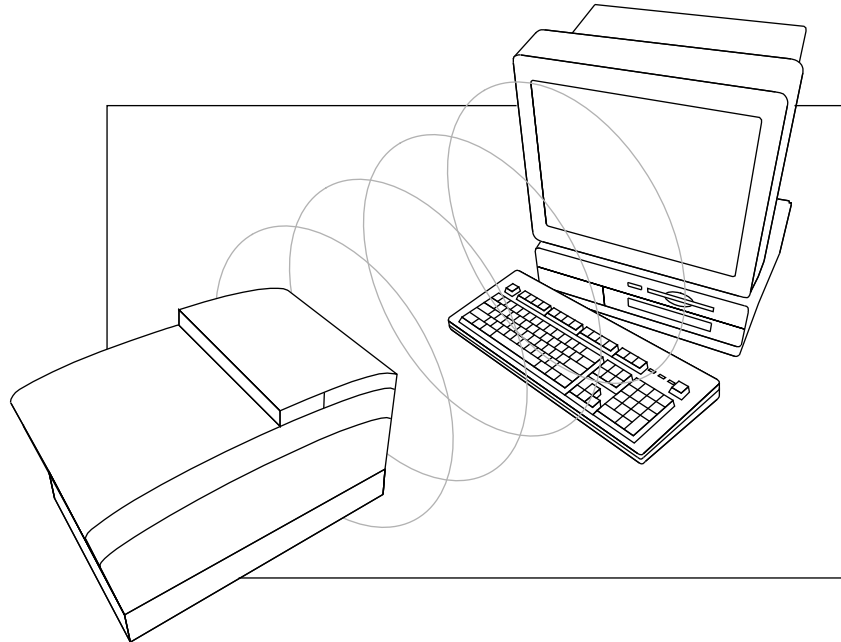

Figure 1. Electromagnetic Compatibility Scenario
An EMC problem will occur in one of two categories: emissions or susceptibility. Both emissions and susceptibility will consist of a conductive (via electrical connection) or radiated nature. For example, Figure 1 shows an office photocopier emitting radio frequency (RF) signals to the outside world that cause the monitor's display to fail. This is a radiated EMC problem. Similarly, the photocopier could radiate noise down the power mains which would in turn conduct onto the computer monitor power mains and thereby cause the fault in a conductive manner. The monitor could be considered a victim of the photocopier because of poor design and high RF noise radiation. Arguably, the monitor could be designed poorly and be unable to handle background environment noise existing in electronic office equipment.